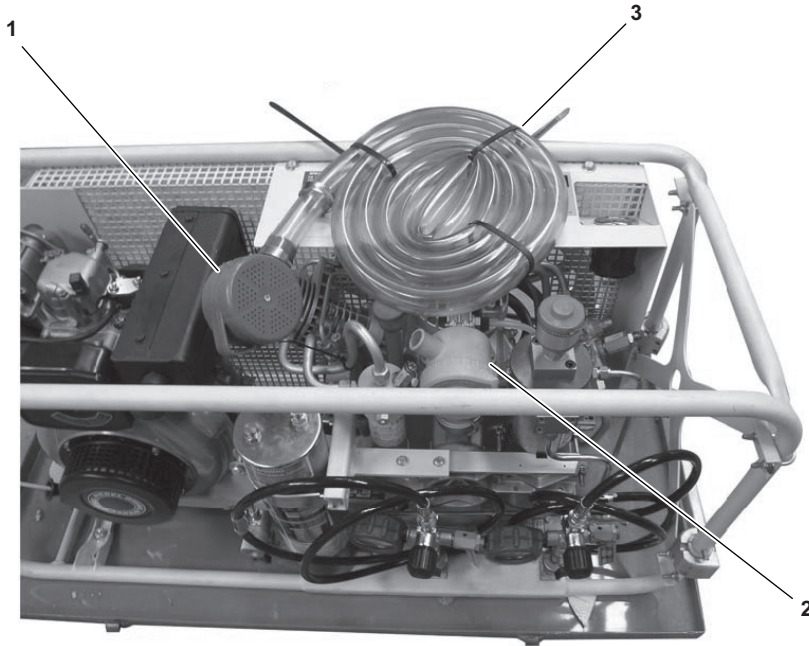

Figure 3-2. Pre-filter, Air Inlet Hose, and Air Intake
Atmospheric air is drawn through a plastic pre-filter (figure 3-2, item 1) which prevents large particles and debris from entering the intake filter (figure 3-2, item 2). It is connected to the air intake filter by a 7 foot long air inlet hose (figure 3-2, item 3).